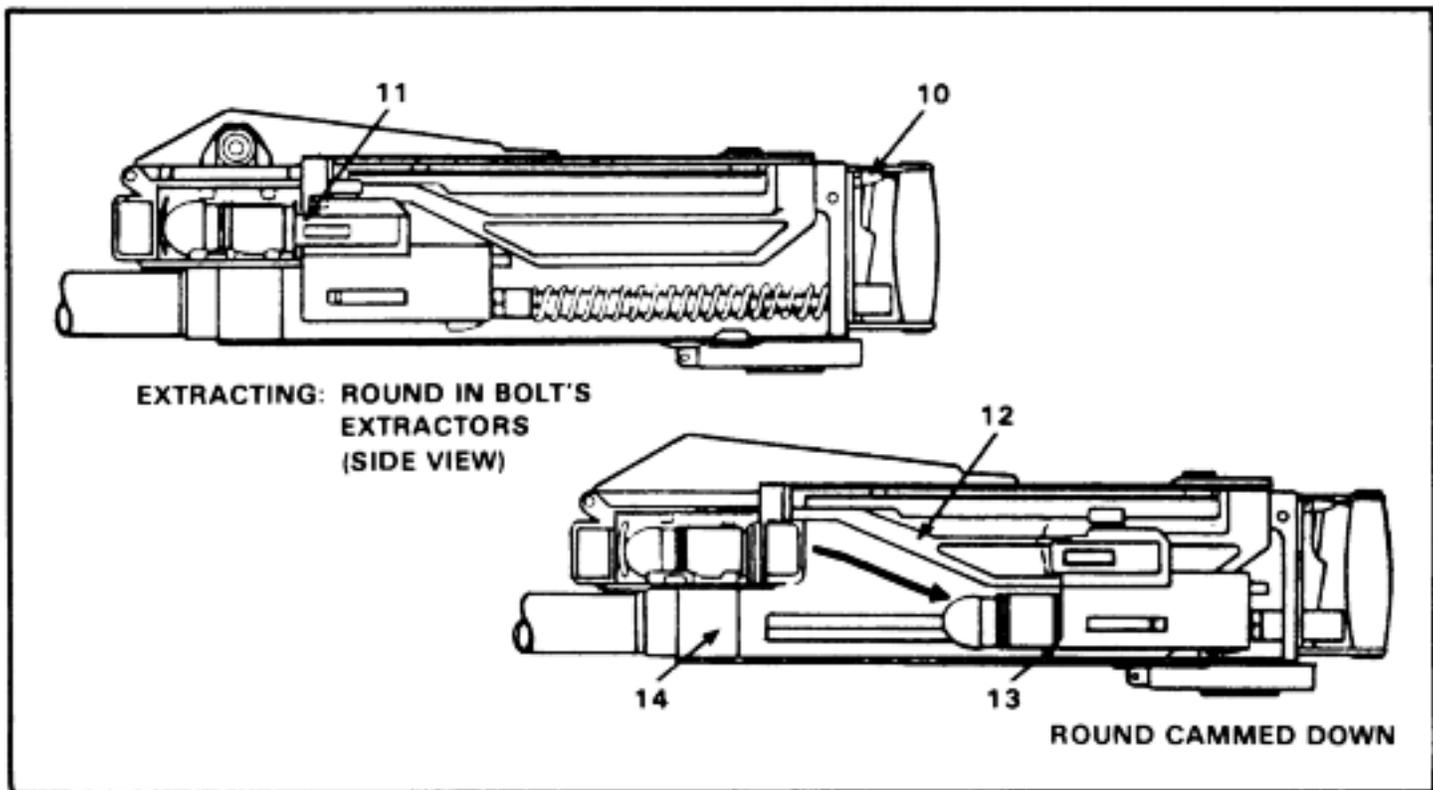

Figure 2-26. Extracting (delinking) round.
b. Extracting (Delinking). When a round is stripped from the belt, it is extracted or "delinked". This happens, after the MK 19 has been charged once, when the trigger (10) is pressed. The bolt slams forward and the bolt's extractors (11) snap over the rim of the cartridge case. When the MK 19 is charged again, the extractor pulls the leading round to the rear and separates the male and female links. The curved edge of the vertical cam (12) forces the lead round out of the extractors and into the bolt fingers (13). With the bolt completely to the rear, the round lines up with the chamber (14), and is ready to fire. As the original leading round chambers, the next round aligns with the bolt extractors (Figure 2-26).